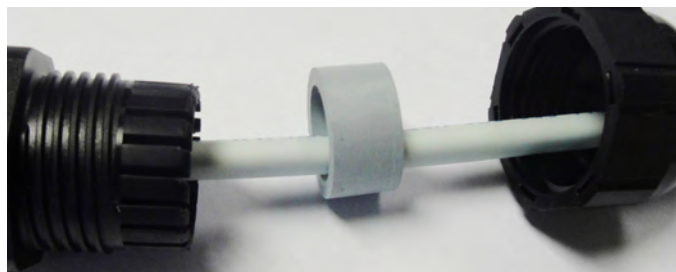

Figure 31: Thread nut, seal and cable gland
2. In the following order, thread the dome nut, gray seal and cable gland body onto the Ethernet cable as shown in *Figure 31*.